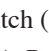

Fig.3-5 Cupfiller Switch
② Cupfiller Switch (Fig.3-5) **E** (When linked with Clesta-II Spittoon)